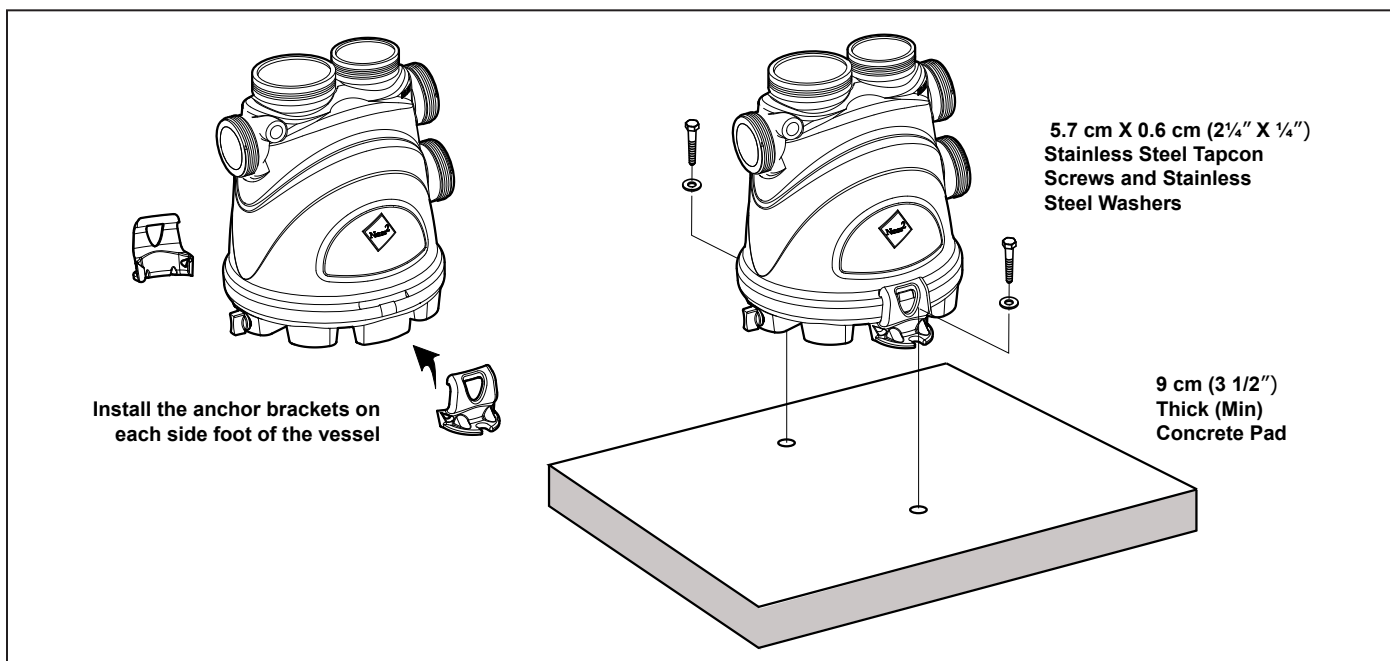

Figure 2. Anchor Bracket Installation
**NOTE** Anchor screws and washers for securing the vessel to the equipment pad are not included with the vessel. Zodiac Pool Systems, Inc. ("Zodiac") recommends that a 5.7 cm X 0.6 cm (2 1/4" X 1/4") long stainless steel concrete screw and stainless steel flat washer are used to mount each of the two (2) anchors in the base to the equipment pad.
1. Manually snap on the two (2) clip-type anchor brackets onto the side feet of the vessel as shown in Figure 2. Make sure these anchor brackets are attached firmly to the feet of the vessel.
3. Drill a 0.5 cm (5/32") hole in the concrete at each of the two (2) hole locations of the anchor brackets. The correct size concrete drill bit should be obtained when the concrete screws are purchased.
4. Install the screws and washers into each of the two (2) holes to secure the vessel to the equipment pad. Do not over-torque the screws.